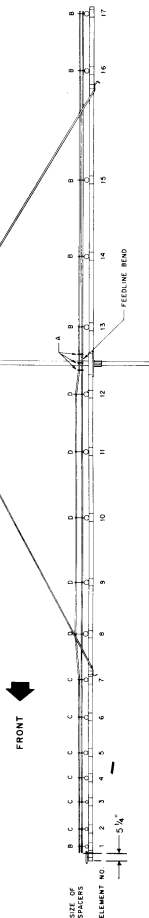

Figure 2-6
Refer to Figure 2-6 and install two (2) D-size insulators (item 91) and two pair of feeder clips (item 88) alternately on the feedline as previously done.
Lay the feedline on top of the center insulators which are now attached to the boom. Make certain the curved section fits around the mast and the front end of the feedline is 5¼" from the front of the boom and the slots in the insulators are down. See Figure 2-6.
After the feedline insulators have been centered over each element, prepare to attach these securely by using the hose clamps supplied in Parts Pack 6. Table 2-1 lists the elements and the size of hose clamps used for each. Figure 2-6 identifies the hose clamp locations.